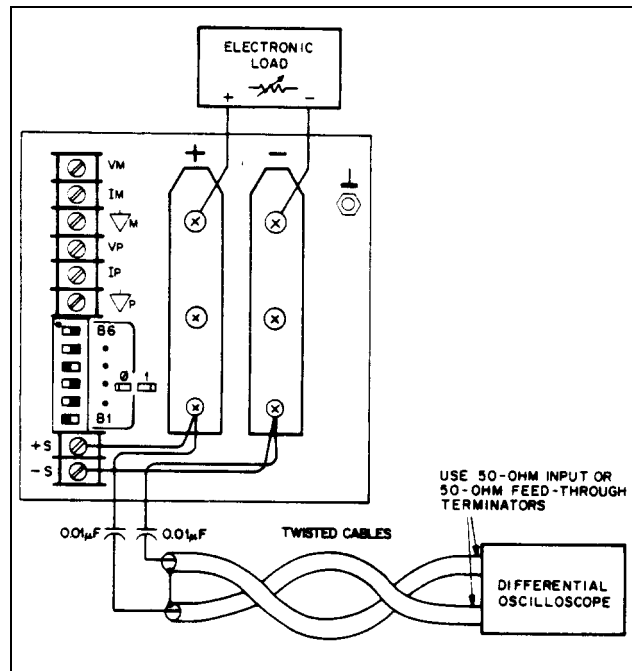

Figure 2-5. Peak-To-Peak Measurement Test Setup, CV PARD Test
Peak Measurement Procedure. Figure 2-5 shows the interconnections of equipment to measure PARD in V_{pp} . The equipment grounding and power connection instructions of PARD rms test apply to this setup also. Connect the oscilloscope to the + OUT and - OUT terminals through $0.01\mu\text{F}$ blocking capacitors to protect the oscilloscope's input from the unit's output voltage. To reduce common-mode noise pickup, set up the oscilloscope for a differential, two-channel voltage measurement. To reduce normal-mode noise pickup, use twisted, 1 meter or shorter, 50Ω coaxial cables with shields connected to the oscilloscope case and to each other at the other ends. Proceed as follows:
- a. Connect the test equipment as shown in Figure 2-5. Operate the load in constant resistance mode (Amps/Volt) and set resistance to maximum.